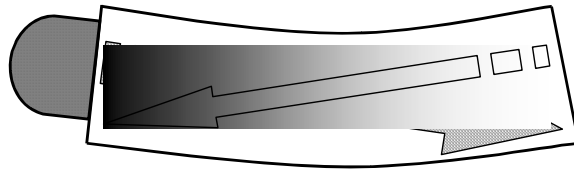

Figure 6 Reflection in a bending bolt
- Nonperpendicular reflecting bolt ends due to bending of the bolt as shown in Figure 6.